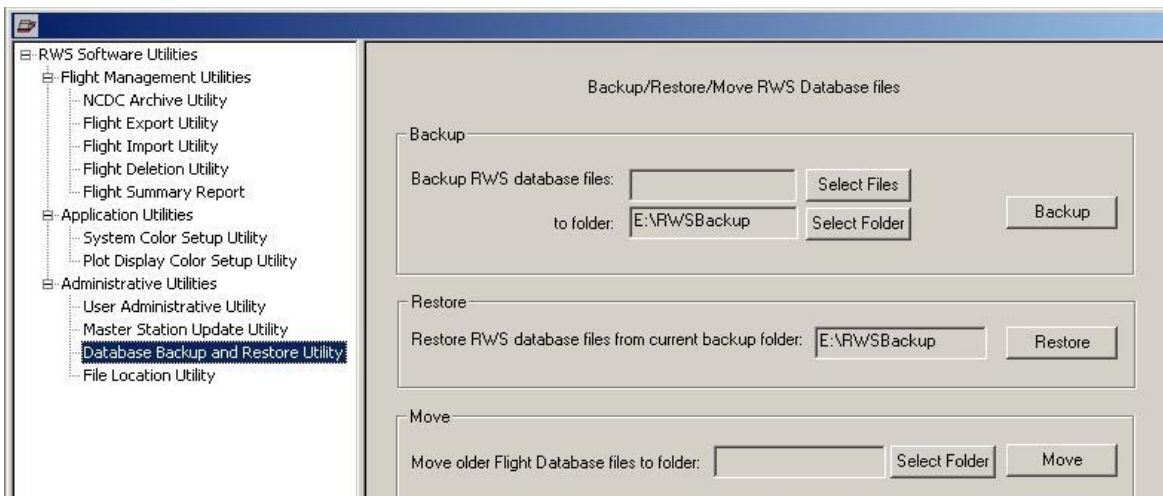

Figure A-1: RRS Backup, Build 1.2
- a. Click **Select Files** from the *RWS Build 1 Database Backup Utility* screen (Figure A-1).